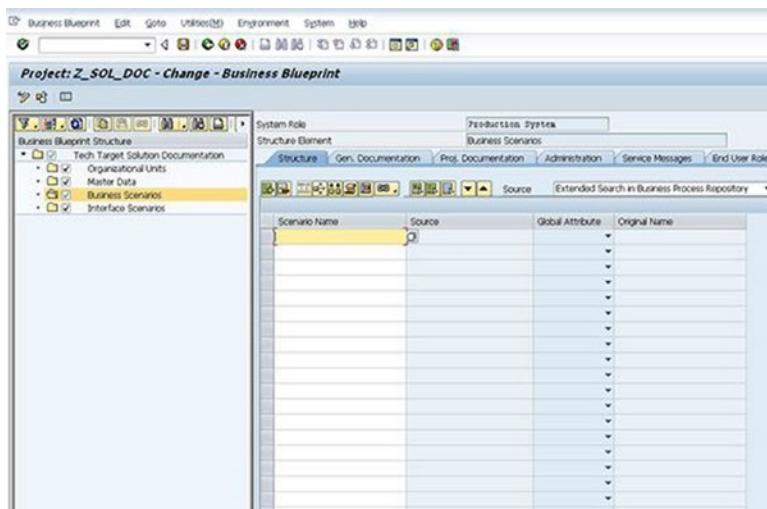

Figure 10-7. SolMan scenarios
- Choose the process steps from the Business Process Repository (BPR); include all process steps to deploy SAP SolMan. You can build the business process repository (BPR) by using reference content to build your business blueprint that matches the module that you want to deploy. Now, you'll select the scenarios, as shown in Figure 10-7.